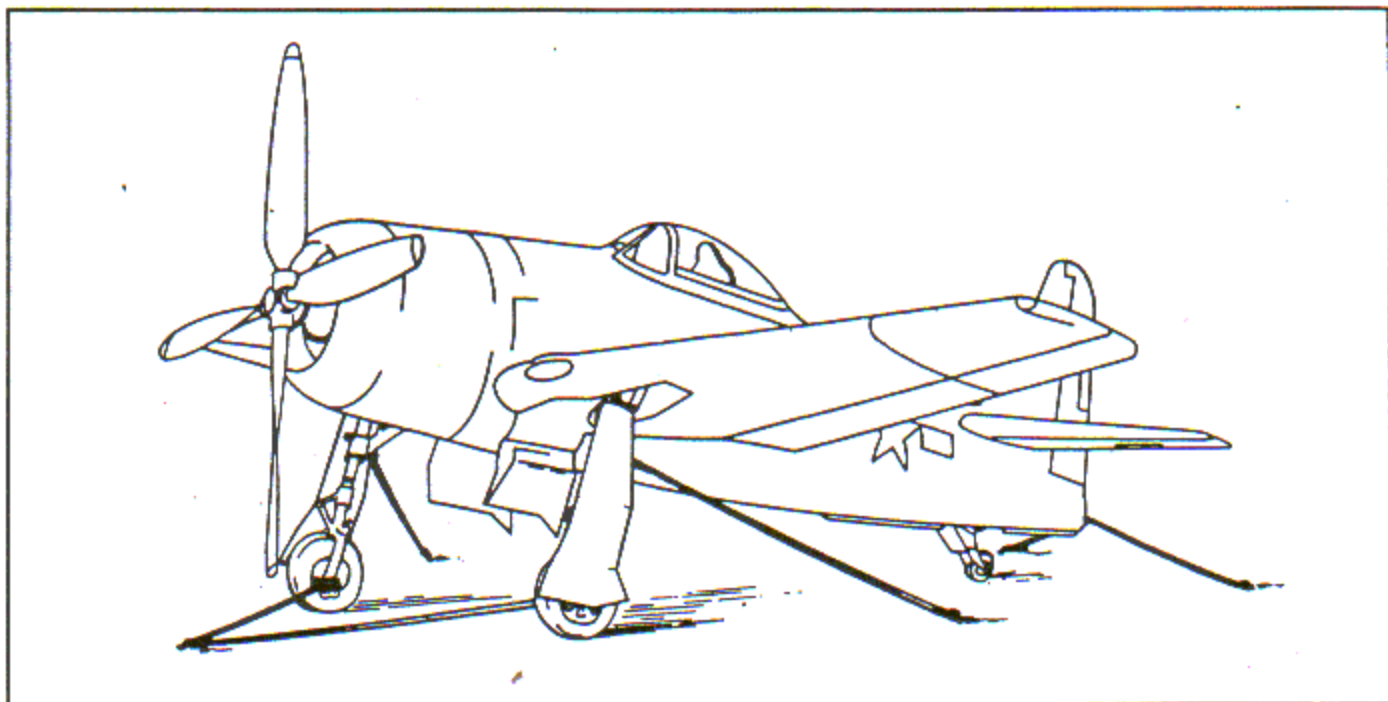

Figure 39—Mooring Diagram
a. GENERAL. — The airplane can be moored by using the forward towing fittings located on the main wheel axles as the forward tie down. The catapult hold back fitting is used as the aft tie down, and the tie down fittings provided on the shock strut trunnions as the outboard and aft tie downs. (See figure 39.)